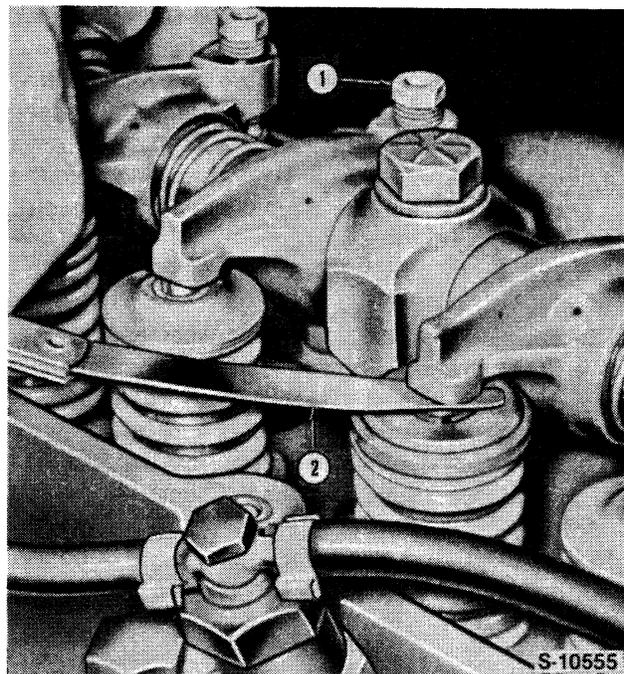

Figure 18
- Rotate the engine and set the valve lash, Figure 18. See "Specifications," Chapter 3.